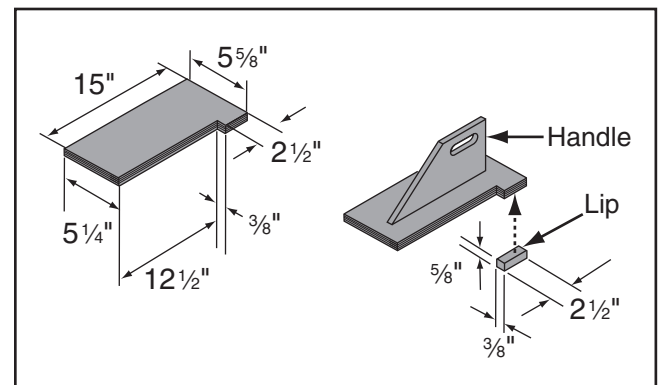

Figure 88. Push block dimensions and construction.
3. Using $\frac{3}{4}$ " material you used in previous steps, cut out pieces for push block per dimensions shown in **Figure 88**; for handle, cut a piece 10" long by 5"–9" high and shape it as desired to fit your hand.